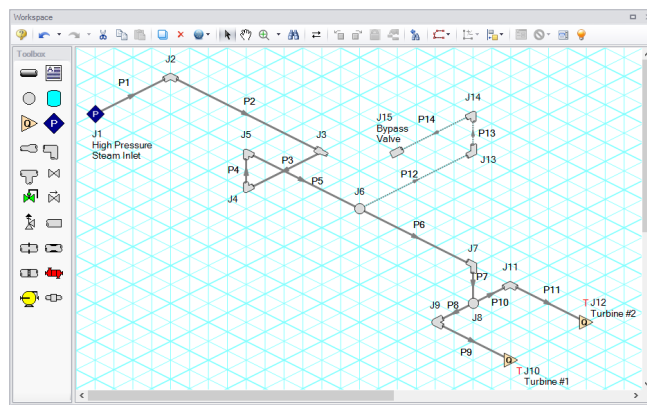

Figure 1: Model layout with grid
3. Place the junctions as shown in Figure 1